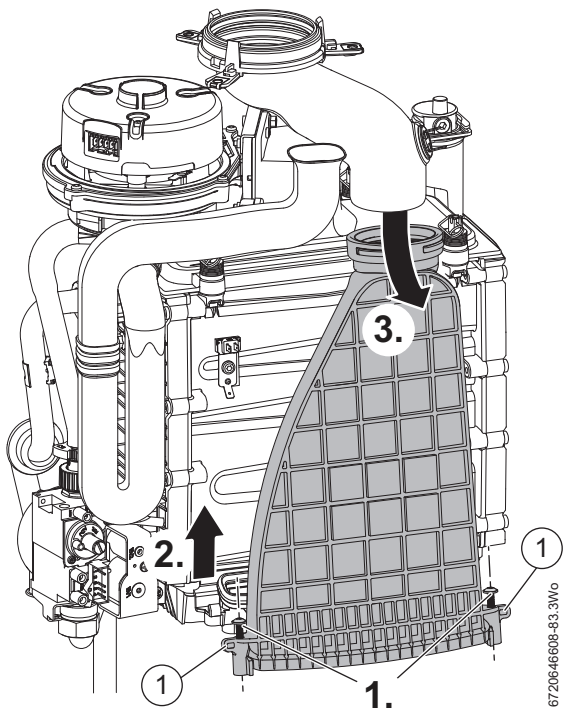

Fig. 86 Flueway removal
▶ Refer to figure 86 for Flueway removal.
2. Using a screwdriver under the tabs (1) next to the screws, lever the Flueway up to clear the seal and pull the Flueway forward.